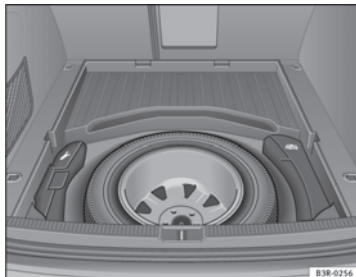

Fig. 194 Spare steel rim wheel
- Turn the plastic knob ⇒ fig. 194 anti-clockwise.